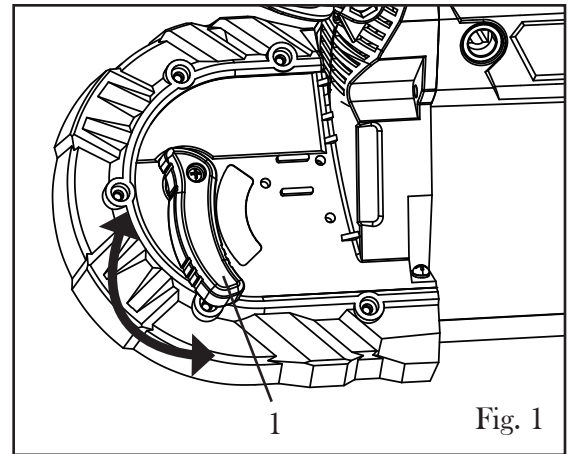

Fig. 1
1. Turn the tension handle (Fig. 1 - 1) on the front side of your saw clockwise to release the blade tension.
4. Turn the tension handle (Fig. 1 - 1) counterclockwise all the way until the handle is tight. The blade is now properly tensioned.
2. Turn the tension handle (Fig. 1 - 1) clockwise to release blade tension.